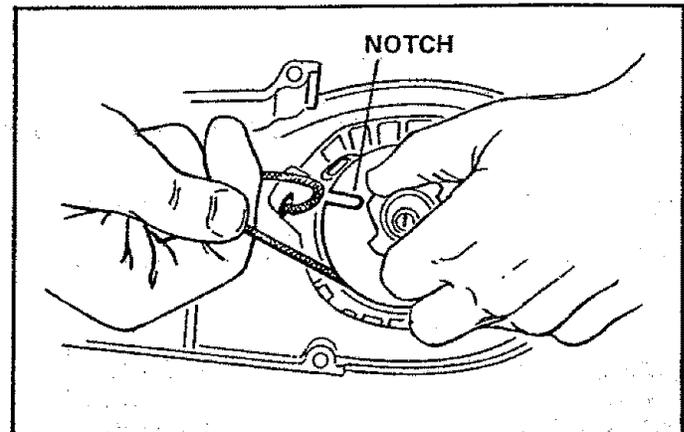

Figure 53
19. Pull out 10 inches of rope and set the rope in the notch in the pulley. Figure 53.